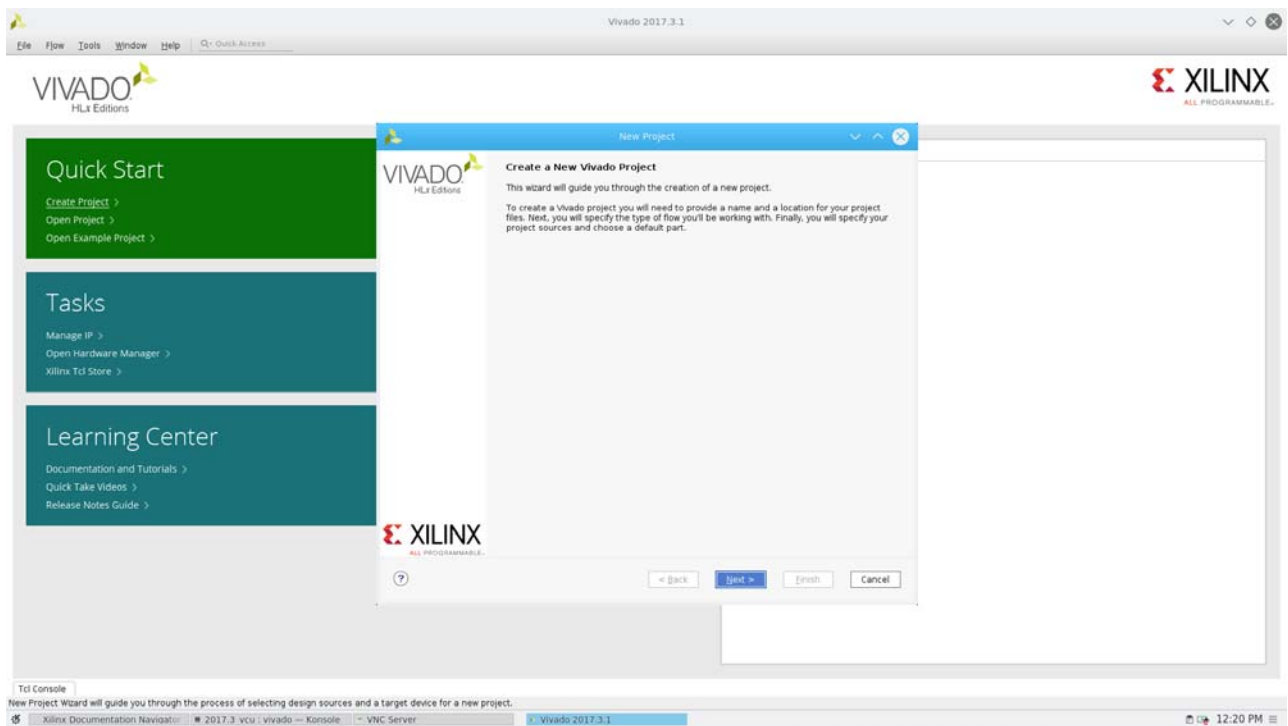

Figure 10-3: New Vivado Project
1. Launch the Vivado IDE and create a new project. (Figure 10-3)